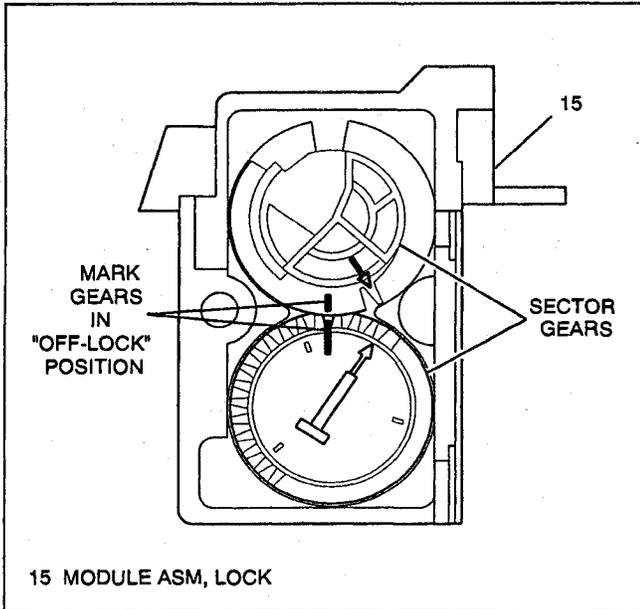

Figure 11 - Sector Gear Timing Position (OFF-LOCK)
- Mark two sector gears at "OFF-LOCK" position to ensure proper reassembly. Failure to assemble sector gears properly will cause lock cylinder (17) and ignition switch (19) to be improperly timed. (See Figure 11 for proper timing)
1. Align marks made on sector gears and install sector gears and backing plate to lock module assembly (15). (See Figure 11 for proper timing of gears)
2. Steering column lock cylinder set (17) to lock module assembly (15).
- A. Ensure sector in lock module assembly (15) is in "OFF-LOCK" position. (See Figure 11)
- B. Key installed in lock cylinder (17) and in "OFF-LOCK" position.
- C. Line up locking tab and positioning tab with slots in lock module assembly (15) and push cylinder (17) into position.
3. Lock module assembly (15).
- Push lock bolt (11) into steering column tilt head assembly (26) until flush.
- Align lock module assembly (15) with tilt head assembly (26) and install.
4. Three pan head tapping screws (13).
- Tighten screws (13) to 6.0 N·m (53 lb.in.).
23. Shift lever seal (16) and multifunctional lever seal into position.
24. Steering column lock cylinder set (17) to lock module assembly (15).
- A. Ensure sector in lock module assembly (15) is in "RUN" position. (See Figure 11)
- B. Key installed in lock cylinder (17) and in "RUN" position.